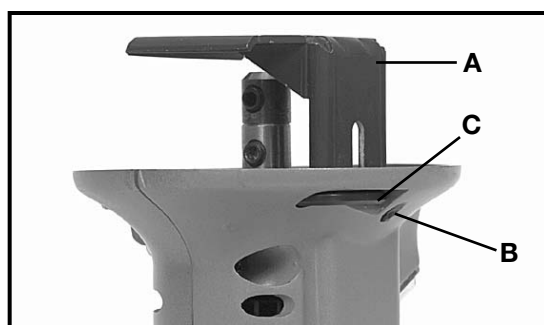

Fig. 5
The Cutout Tool is equipped with a shoe (A) Fig. 5, that can be adjusted to provide the desired amount of bit exposure. A hex wrench (C) Fig. 5, is stored in the Cutout Tool housing (the same wrench used to tighten bit retaining screws). Use your thumbnail to rotate the hex wrench clockwise; away from the tool housing. Grasp the wrench and pull it from its storage pocket.
Use the hex wrench to loosen screw (B) Fig. 5, by turning counterclockwise. Move shoe to desired position and tighten screw firmly.
5. Hold the Cutout Tool firmly with both hands and push the bit until the pilot is through the wall covering at the mark made in step 3 (see Fig. 5). Move the Cutout Tool to the right until you feel the bit contact the inside of the electrical box.